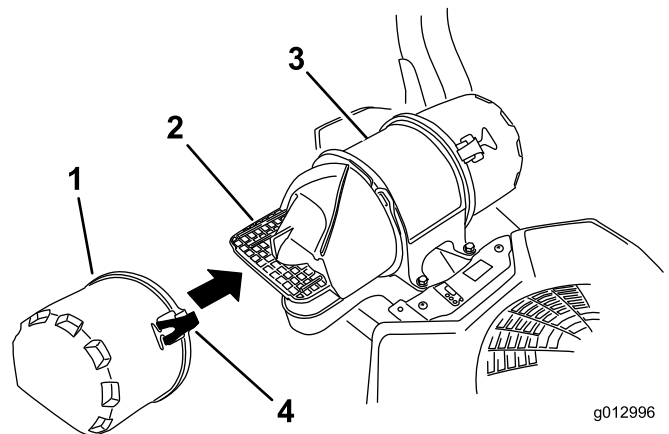

Figure 45
3. Release the latches on the air cleaner, and pull the air-inlet cover off the air-cleaner body (Figure 45).
5. Install the air-inlet cover and secure it with the latches (Figure 45).